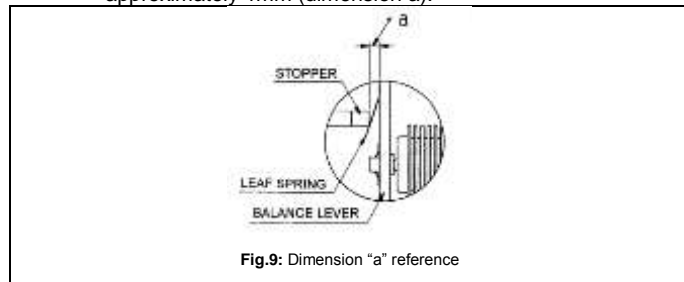

Fig.9: Dimension "a" reference
- Loosen cover stopper thread (2) to remove the body cover (1).
- Loosen the truss screw (M3) (3) and remove the open degree indicator (4) in case of the indicated equipped. Then loosen the hexagon nut with flange (5) and place cam (6) aside by rotating from the top of the pilot valve unit (7).
- Loosen four [4] pilot valve unit mounting cross recessed pan head screws (8), and M3 hexagon nut (9) of the minor feedback joint (at balance lever (11) side).
- Remove the minor feedback connecting screw (10) from the balance lever (11) and remove pilot valve unit (7) from the body (12). Please loosen the minor feedback connecting balance lever (11) and the nut point settled to the flapper (13).
- Mount new pilot valve unit (7). Insert minor feedback square nut (14) to the balance lever before tightening four [4] cross recessed pan head screws.
- Tightening minor feedback connecting M3 hexagon nut (9) (balance lever (11) side.). Attention should be taken on the following three points to settle the pilot valve unit (7).
- (1) Gap between the stopper and the balance lever is approximately 1mm (dimension a). [See Fig.9.]